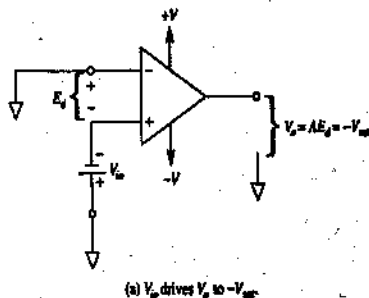

FIGURE 9-6
Fig. 9-6(a) shows that  $V_{io}$  and the large value of the open-loop gain of the op amp act to drive  $V_o$  to negative saturation. Contrast the polarity of  $V_{io}$  in Figs. 9-5(b) and 9-6(a). If you buy several op amps and plug them into the test circuit of Fig. 9-6(a), some will drive  $V_o$  to  $+V_{sat}$  and the remainder will drive  $V_o$  to  $-V_{sat}$ . Therefore, the magnitude and polarity of  $V_{io}$  varies from op amp to op amp. To learn how  $V_{io}$  affects amplifiers with negative feedback, we study how to measure  $V_{io}$ .
For simplicity, the effects of bias currents are neglected in the following discussion. Figure 9-6(b) shows how to measure  $V_{io}$ . It also shows how to predict the magnitude of error that  $V_{io}$  will cause in the output voltage. Since  $E_i = 0$  V,  $V_o$  should equal 0 V but  $V_{io}$  acts exactly as would a signal in series with the noninverting input. Therefore,  $V_{io}$  is amplified exactly as any signal applied to the (+) input of a noninverting amplifier (see Section 3-5). The error in  $V_o$ , due to  $V_{io}$  is given by
The output error voltage in Fig. 9-6(b) is given by Eq. (9-4) whether the circuit is used as an inverting or as a noninverting
**Conclusion.** To measure  $V_{io}$ , set up the circuit of Fig. 9-6(b). The capacitor is installed across  $R_f$  to minimize noise in  $V_o$ . Measure  $V_o$ ,  $R_f$  and  $R_i$ . Calculate  $V_{io}$  from
$V_{io}$  is specified to be 1 mV for a 741-type op amp. Predict the value of  $V_o$  that would be measured in Fig. 9-6(b).
If we temporarily let  $E_1$  and  $E_2 = 0$  V in Fig. 9-7(a), the (-) input sees three equal resistors forming parallel paths to ground. The single equivalent series resistance,  $R_p$ , is shown in Fig. 9-7(b). For three equal 10-k $\Omega$  resistors in parallel, the equivalent resistance  $R_p$  is found by  $10 \text{ k}\Omega/3 = 3.33 \text{ k}\Omega$ .  $V_{io}$  is amplified just as in Fig. 9-6(b) to give an output error of +10 mV. Therefore, the total output voltage in Fig. 9-7(a) is 0 instead of -10 mV.